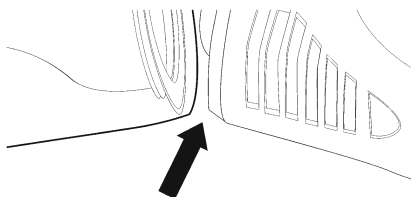

Fig. 9
1. Remove the appliance from the charging station (2).
3. Press the dust container release button (12) and remove the dust container (10) (Fig. 9).
7. Re-insert the dust filter (11) correctly into the dust container.
8. Assemble the dust container (10) and the housing by adding first the bottom and then the top until they are firmly attached (Fig. 9).